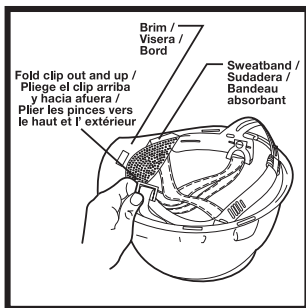

Figure 1
- Line up suspension so that sweatband is at front next to brim (Figure 1).